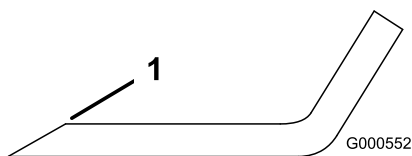

Figure 75
1. Use a file to sharpen the cutting edge at both ends of the blade (Figure 75).